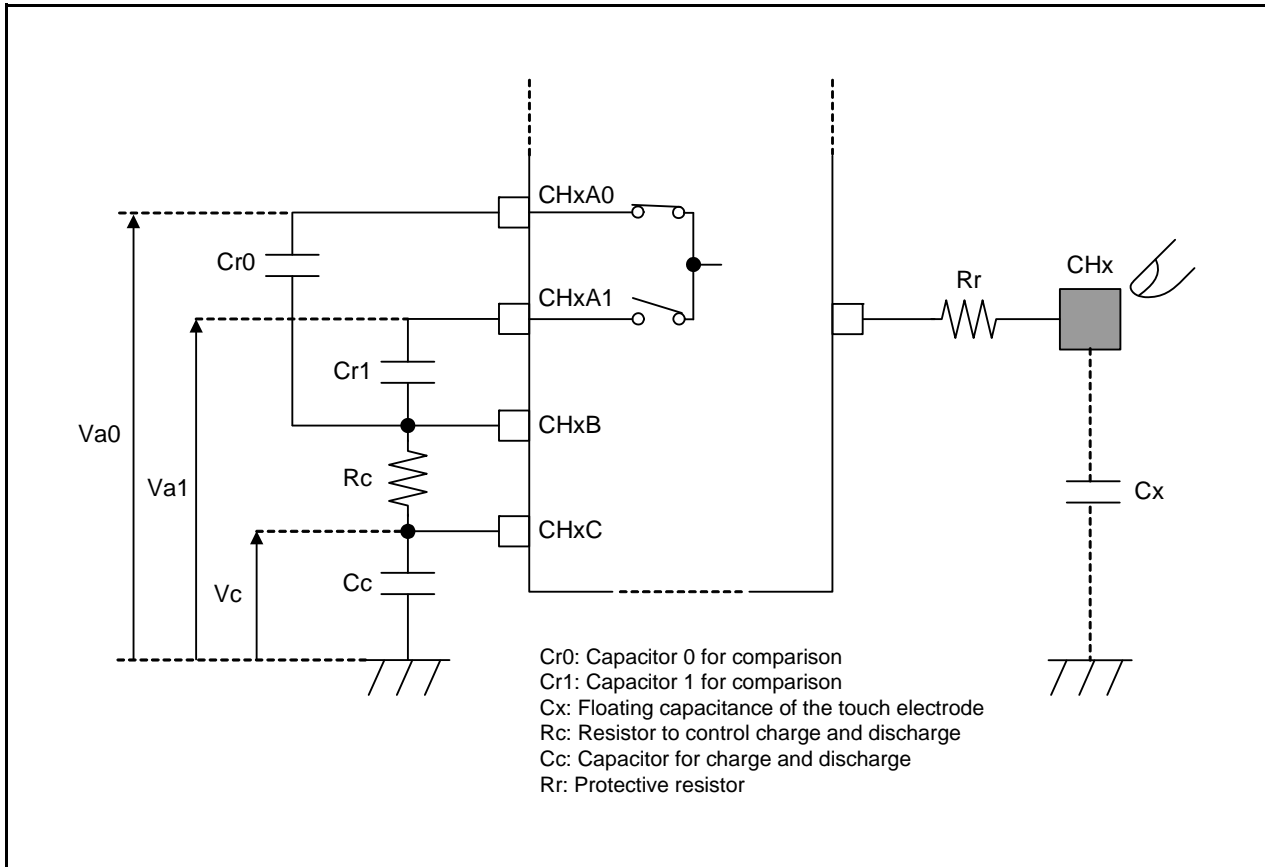

Figure 25.11 Measurement Circuit Section
Refer to Figure 25.11 for details of the configuration.
Figure 25.11 shows the Measurement Circuit Section. The measurement operation principle of the sensor touch control unit is explained below.
As shown in Figure 25.11, the operation is described with resistors and capacitors inserted.
- (1) Charge Cc by connecting the CHxC pin to the voltage supply (VCC).
- (2) After charging Cc fully, discharge Cc by connecting pins CHxA and CHxB to the ground level (VSS).
- (3) After discharging Cc for a short period of time, keep pins CHxA, CHxB, and CHxC at high-impedance (Hi-Z), and measure the voltage at the CHxA pin. At this point, as shown in Figure 25.11, when the voltage measured at the CHxA pin is Va, and the voltage measured at the CHxC pin is Vc, Va at the time of voltage measurement is expressed by the following formula (A).